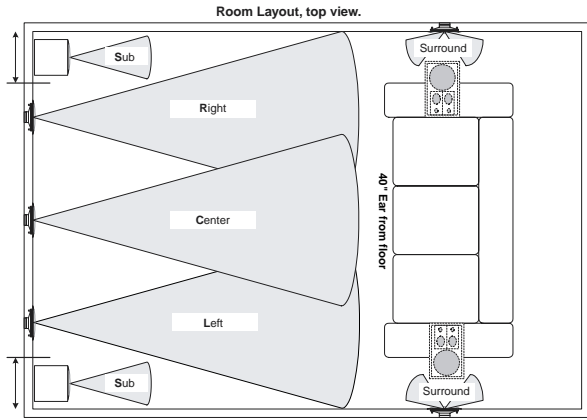

Figure 1
- When two subwoofers are used, the best sound usually results from placing them in the room as recommended in the illustration above (Figure 1). Because most rooms have resonant modes (frequencies at which the room shape emphasizes sound), such placement smooths bass response.